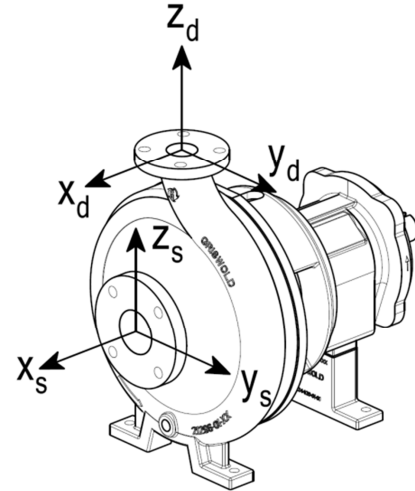

Figure 1: Coordinate System
- i. Establish the nozzle loads that are to be evaluated against this standard considering the load coordinate system shown in Figure 1. Record these values as F_{xs} , F_{ys} , F_{zs} , M_{xs} , M_{ys} , M_{zs} , F_{xd} , F_{yd} , F_{zd} , M_{xd} , M_{yd} and M_{zd} where, for example, F_{xs} represents the force on the x-axis applied to the suction nozzle. As another example, M_{yd} represents the moment about the y-axis applied to the discharge nozzle.